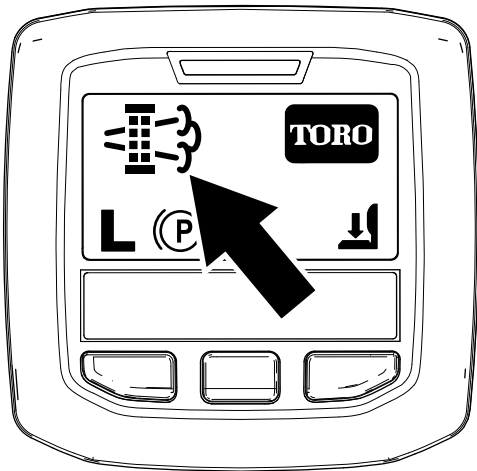

Figure 35
- When the engine computer requests either a parked regeneration or a recovery regeneration, the regeneration request icon (Figure 35) displays in the InfoCenter.